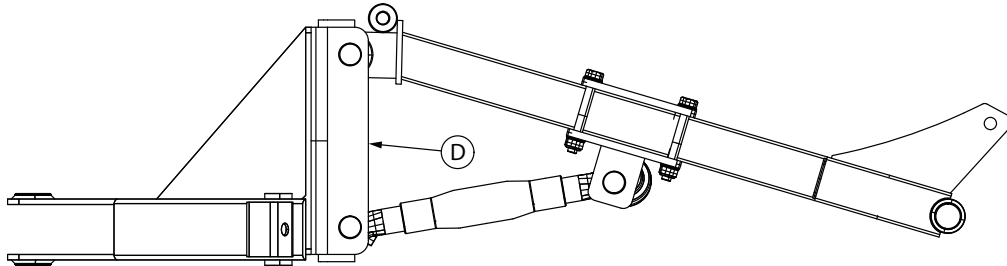

Fig. 1
1. Adjust the length of the turnbuckle so that the mounting frame **D** is vertical when the blade is in contact with the ground, and so that the blade remains parallel to the ground when it slews to the left or right (Fig. 1). This will ensure that the blade scrapes and wears evenly.